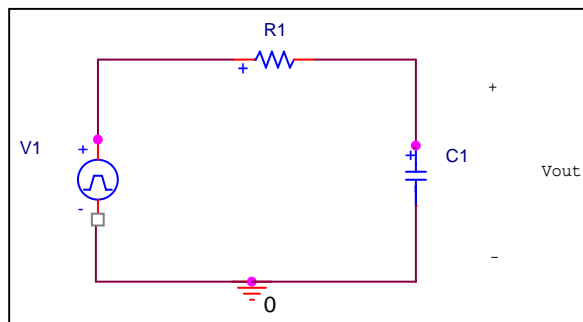
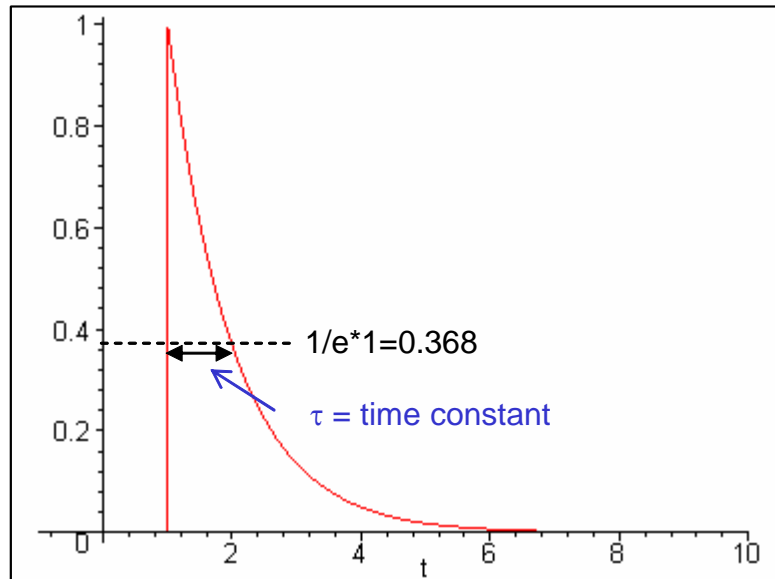
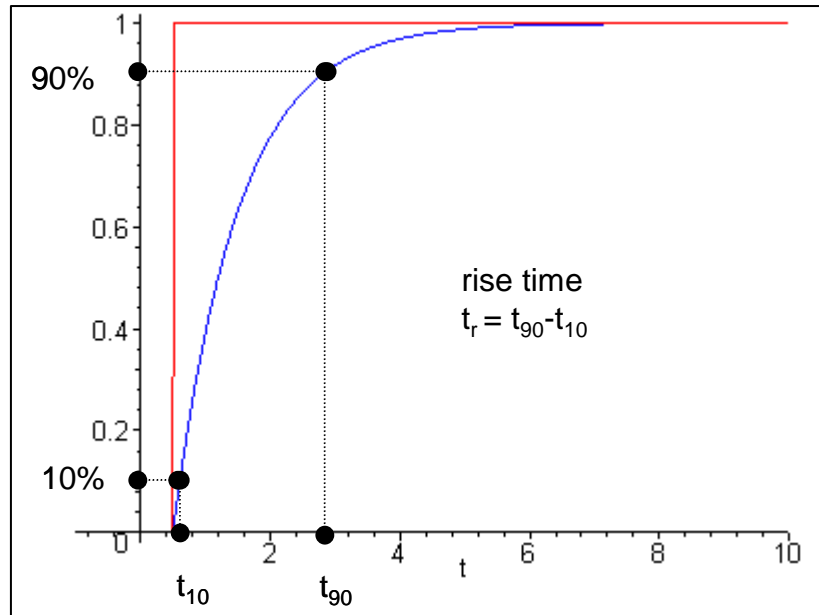

Figure 1. Simple RC lowpass filter circuit.
Figure 2. Impulse response of the RC lowpass filter circuit of Figure 1, showing the definition of the circuit time constant.
Figure 3. Step response of the RC lowpass filter circuit of Figure 1, showing the definition of the 10-90% risetime.
There is a basic need to be able to characterize a circuit independent of its circuit design and layout in order to predict its behavior. Consider the now-overly-familiar RC lowpass filter shown in Figure 1. We could describe this system by showing its circuit schematic or by calculating its impulse response or transfer function. But in many cases only FOMs are important to determine the adequacy of the system.
data important to characterize a specific system is the numerical value of its time constant. Figure 2 shows a typical impulse response for the RC filter of Figure 1. The characteristic exponential decay is just as we remember from class. The time constant of the circuit is defined as the time it takes for the response to decay to $1/e$ (37%) times its initial value. Since the functional form of the response is $\exp(-t/RC)$, the time constant of the circuit can easily be shown to be simply RC .
The second FOM, the risetime, characterizes the response of the system to a positive step change in input. The response of the circuit of Figure 1 to an applied unit step input is shown in Figure 3. The rise time most typically used as a FOM is the “10-90% risetime”, which is simply the amount of time necessary for the output to rise from 10% to 90% of its final value. This measurement is shown in Figure 3 as the time difference between the times t_{10} and t_{90} . These values can easily be determined given the step response of the system.
1. Calculate the impulse response of the RC lowpass filter shown in Figure 1, in terms of unspecified components R and C. Determine the time constant for the circuit.